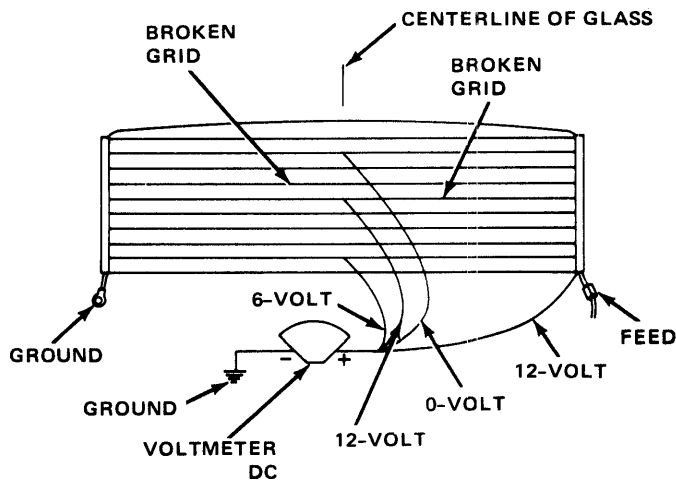

Fig. 3-98 Voltmeter Connections and Voltage Drop for Grid Continuity
(2) Use 12-vdc voltmeter and contact positive lead of voltmeter to right side (feed) vertical bus element on inside surface of glass. Contact negative lead to left side (ground) bus element (fig. 3-98). Voltage drop indicated on meter should be 11 to 13 volts. Connect negative lead of voltmeter to good ground—meter reading should not change.
(3) Keep negative lead connected to ground. Use positive lead and carefully contact each grid at approximate centerline of window.
(4) Voltage drop of one-half full amount, approximately six volts, indicates good grid or closed circuit.
(5) Full voltage drop of 12 volts at centerline indicates break in grid between positive lead and ground.
(6) No voltage drop (0 volts) at centerline indicates break in grid between centerline and voltage source or feed.
(7) The exact location of the break can then be pinpointed by moving the positive lead to the left or right along the grid until an abrupt change in the voltage reading is noticed.